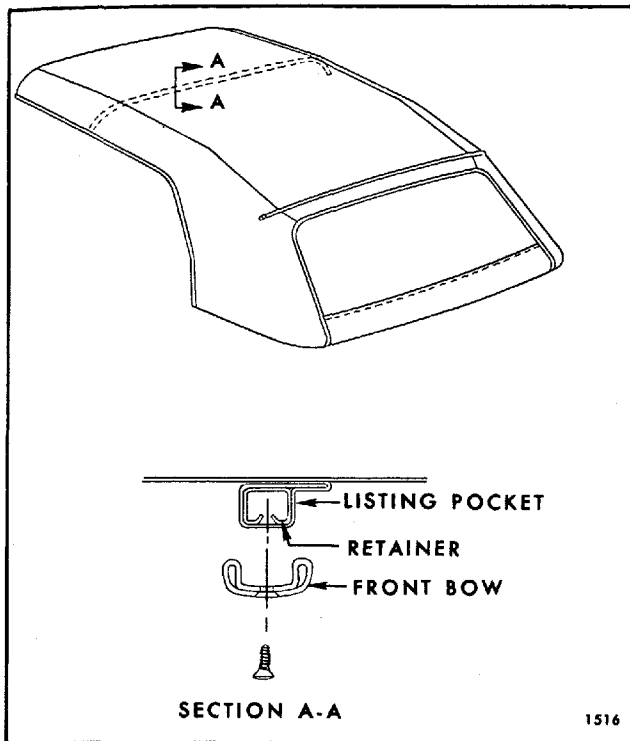

Fig. 6-4—Listing Pocket Retainer
15. At underside of front bow, remove screws securing listing pocket retainer to bow (Fig. 6-4).